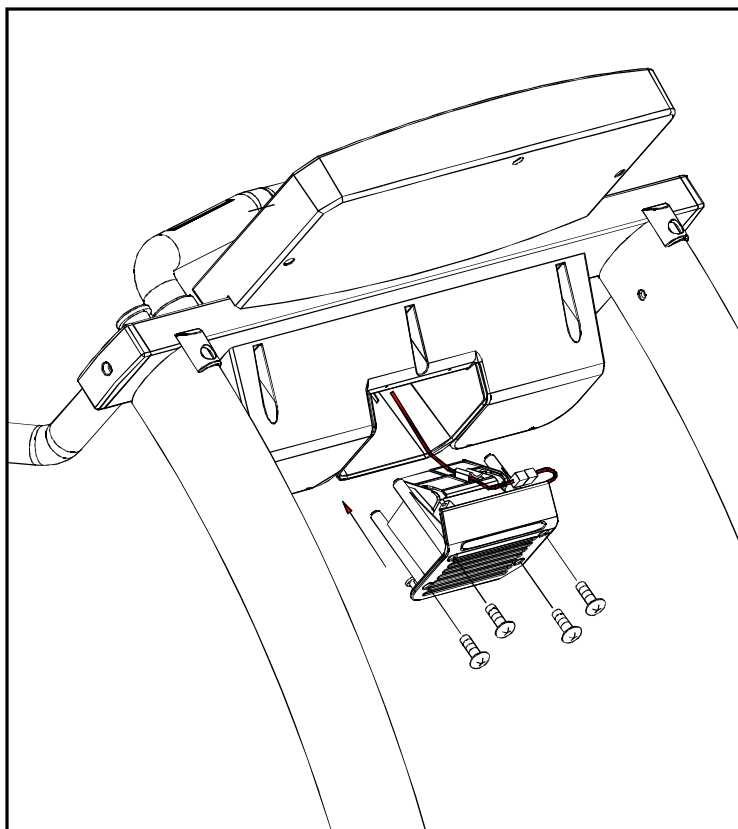

Fig.13
(5) Assemble the screws on the bottom of the fan cover. (see Fig.13)